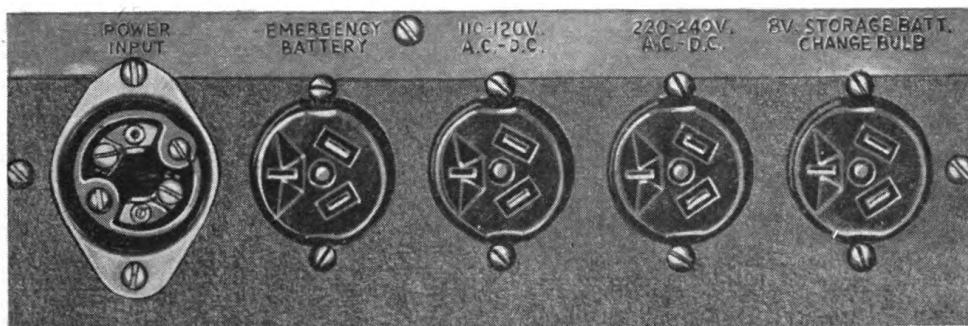

Figure 5. Receptacle panel complete.
d. Insert the lamp head cable plug into the 110-120-volt, a-c-d-c (third) receptacle. (See figs. 5, 6, and 7.)